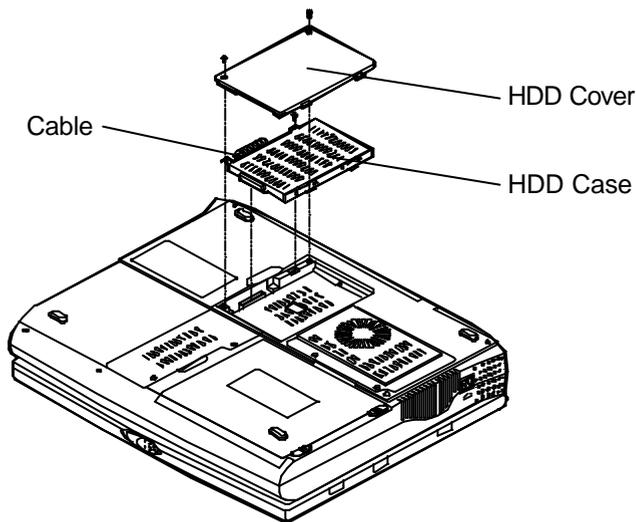

Figure 2-10
- Remove the HDD cover (Figure 2-10).
- Disconnect the cable (Figure 2-10).
- Detach the HDD case from the Notebook (Figure 2-10).